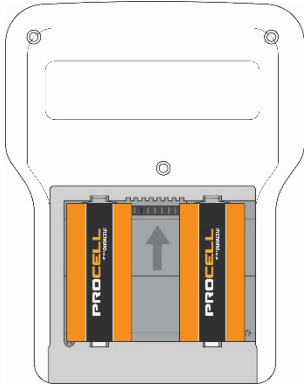

Figure 5: Battery Compartment with Disposable Batteries Installed (Door Removed)
4. Insert the new C-Cell batteries, making sure to place the positive (+) poles at the top and negative (–) poles of the batteries at the bottom (Figure 5).